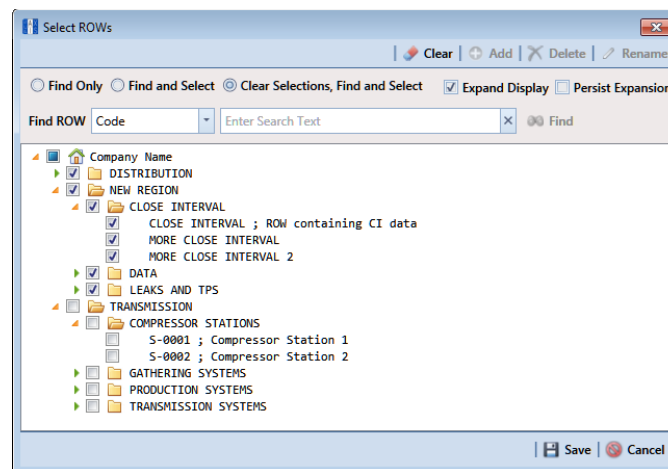

Figure 8-11. Select ROWs
- a Select one or more pipeline segments in the *Select ROWs* window (Figure 8-11). Click **Save** to close the window.